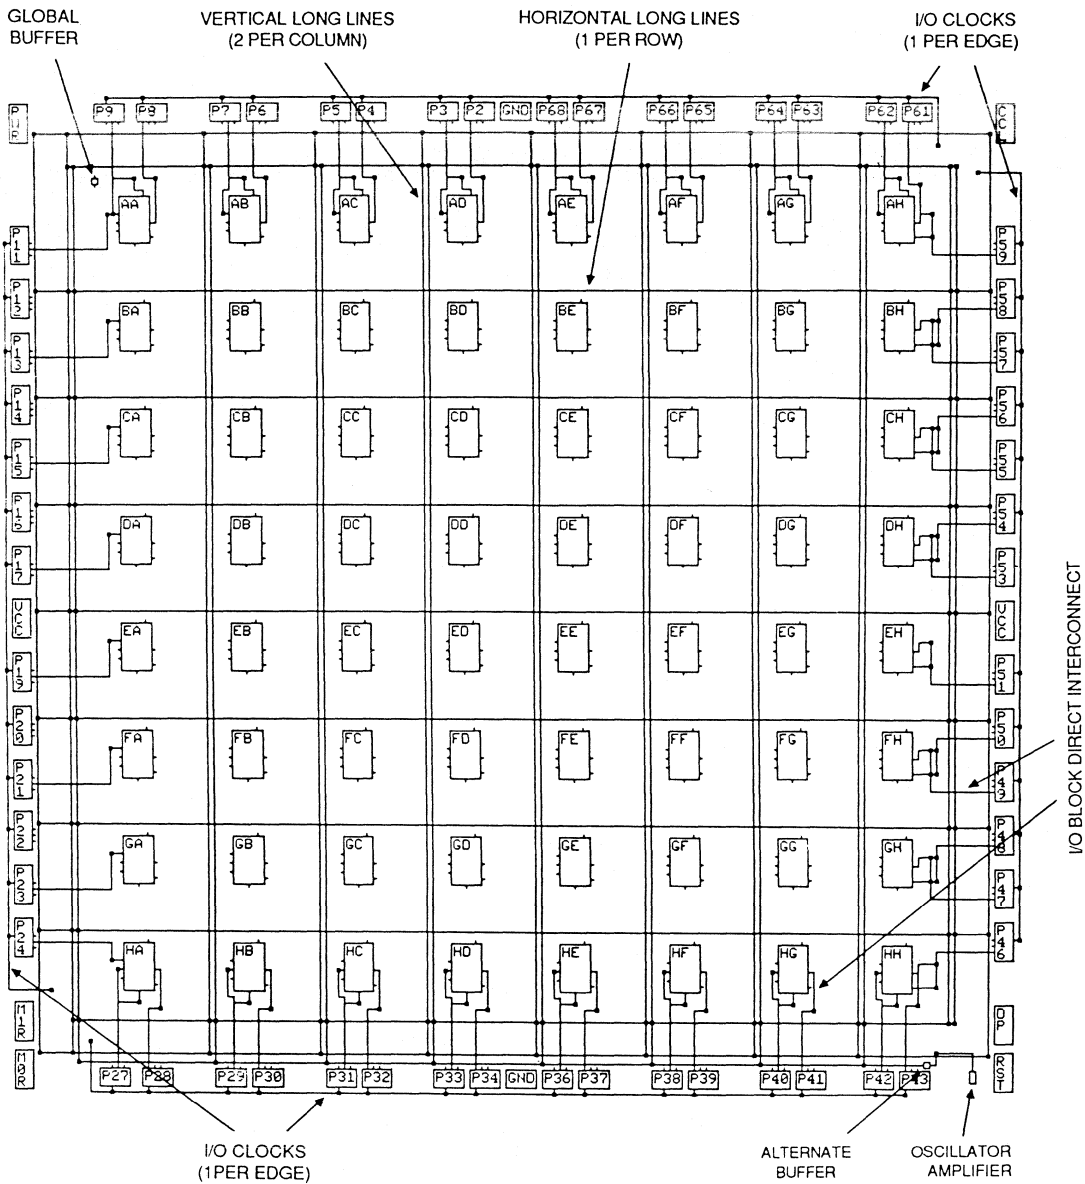

Figure 8b. XC2064 Longlines, I/O Clocks, I/O Direct Interconnect
Alternatively, these Longlines can be driven by a logic or I/O block on a column by column basis. This capability provides a common, low-skew clock or control line within each column of logic blocks. Interconnections of these Longlines are shown in Figure 8b.
Direct interconnect, shown in Figure 9, provides the most efficient implementation of networks between adjacent logic or I/O blocks. Signals routed from block to block by means of direct interconnect exhibit minimum interconnect propagation and use minimum interconnect resources. For each Configurable Logic Block, the X output may be connected directly to the C or D inputs of the CLB above and to the A or B inputs of the CLB below it. The Y output can use direct interconnect to drive the B input of the block immediately to its right. Where logic blocks are adjacent to I/O blocks, direct connect is provided to the I/O block input (I) on the left edge of the die, the output (O) on the right edge, or both on I/O blocks at the top and bottom of the die. Direct interconnections of I/O blocks with CLBs are shown in Figure 8b.
Figure 8b also shows the location of an internal high speed inverting amplifier which may be used to implement an on-chip crystal oscillator. It is associated with the auxiliary crystal buffer in the lower right corner of the die. When the oscillator is configured by MAKEBITS and connected as a signal source, two special user IOBs are also configured to connect the oscillator amplifier with external crystal oscillator components as shown in Figure 10. A divide by two option is available to assure symmetry. The oscillator circuit becomes active in order to allow the oscillator to stabilize. Actual internal connection is delayed until completion of configuration. In Figure 10, the feedback resistor R1, between the output and input, biases the amplifier at threshold. The inversion of the amplifier, together with the R-C networks and an AT-cut series resonant crystal, produce the 360-degree phase shift of the Pierce oscillator. A series resistor R2 may be included to add to the amplifier input impedance when needed for phase-shift control, crystal resistance matching, or to limit the amplifier input swing to control clipping at large amplitudes. Excess feedback voltage may be corrected by the ratio of C2/C1. The amplifier is designed to be used from 1 MHz to about one-half the specified CLB toggle frequency. Use at frequencies below 1 MHz may require individual characterization with respect to a series resistance. Crystal oscillators above 20 MHz generally require a crystal which operates in a third overtone mode, where the fundamental frequency must be suppressed by an inductor across C2, turning this parallel resonant circuit to double the fundamental crystal frequency, i.e., 2/3 of the desired third harmonic frequency network. When the oscillator inverter is not used, these IOBs and their package pins are available for general user I/O.